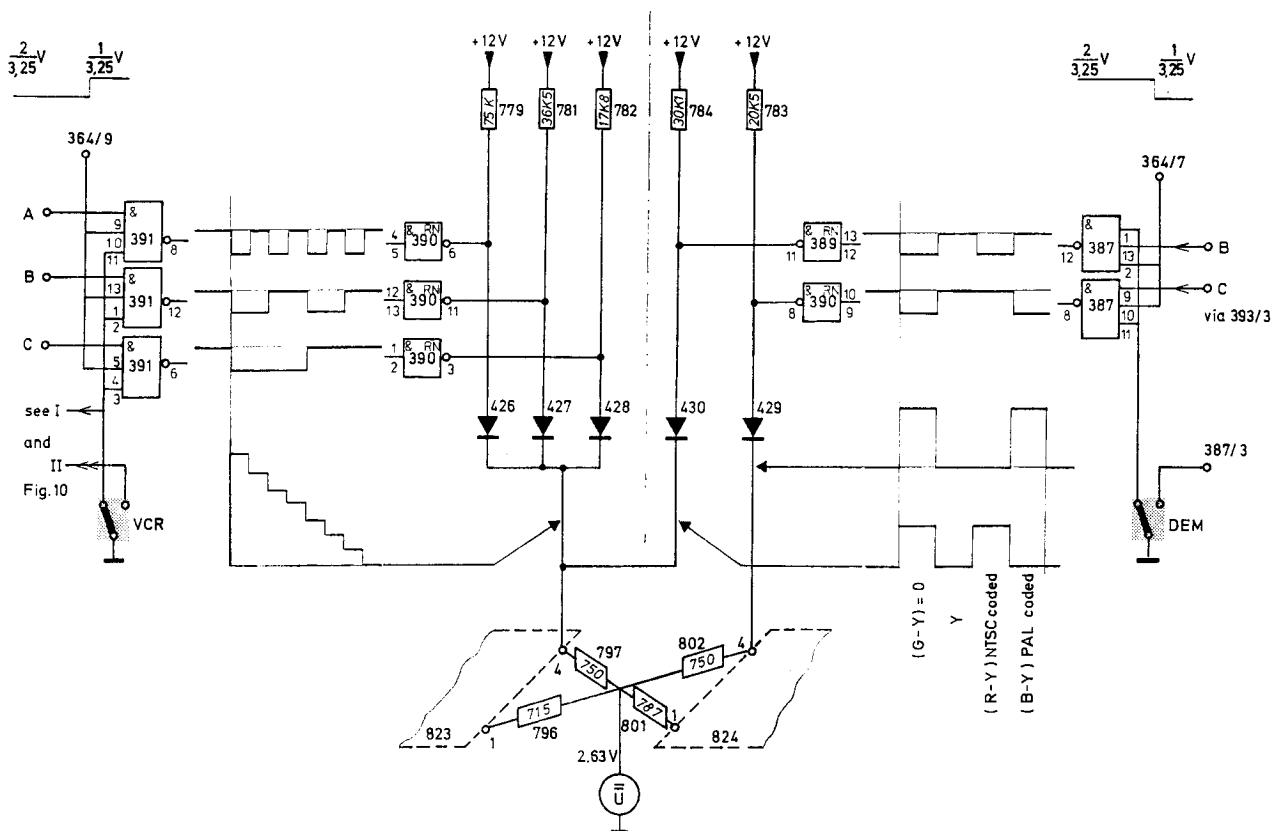

Fig. 20.1 Control of the colour modulator for DEM and VCR
2.2.8.4. Pushbutton DEM depressed, fig. 20.1
The necessary $(R-Y)$ and $(B-Y)$ pulses are applied to the colour matrix by the resistors 783 and 784 (fig. 20.1). Pulse B is one of the driving signals, the other one is a NAND combination of pulse C and B. In the phase-switches 327, 328 the colour carrier frequencies (f_{sub}) are switched to the required NTSC- or PAL-coded mode by means of the AND-gates 394/8 and 394/12.
2.2.8.5. Pushbutton VCR depressed, fig. 20.1